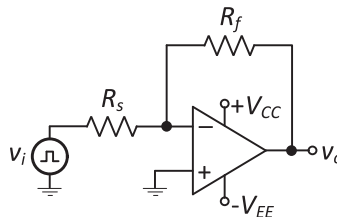

Figure 36.1 Op-amp implementation of the proportional controller.
Proportional Control: The implementation of the proportional (P) control using an operational amplifier is as shown in Figure 36.1. Assuming that the amplifier is configured to operate in the inverting mode, the input-to-output voltage gain of the controller is given by
NOTE: The circuit of the proportional controller is as shown in Figure 36.1. The operational features of the proportional controller is simple and must be obvious to the students.